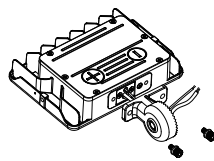

figure 1.1
Step 2: pass the wires through hardware and fix it with screws; (figure 1.1)